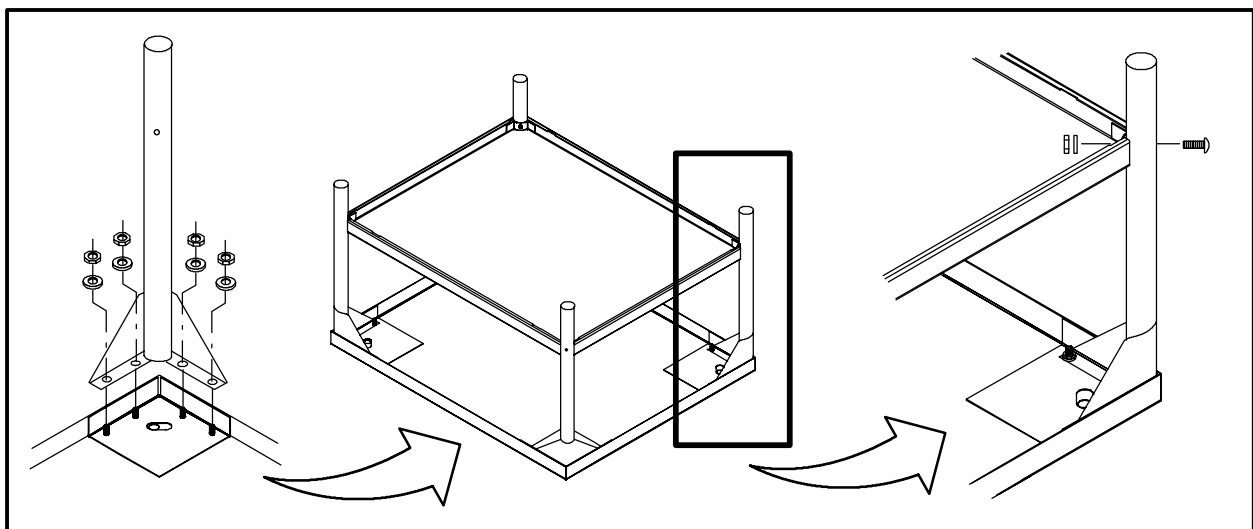

Figure 2
6. Place a lock washer and nut on each bolt, and tighten securely. See the Figure 2.